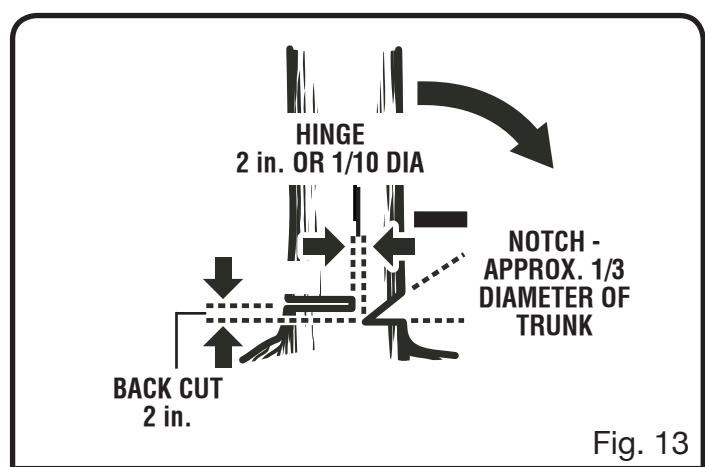

Fig. 13
- **Notched Undercut.** Cut a notch about $\frac{1}{3}$ the diameter of the tree, perpendicular to the direction of fall. Make the cuts of the notch so they intersect at a right angle to the line of fall. This notch should be cleaned out to leave a straight line. To keep the weight of the wood off the saw, always make the lower cut of the notch before the upper cut. *See Figure 13.*
- **Felling Backcut.** The backcut is always made level and horizontal, and at a minimum of 2 in. above the horizontal cut of the notch. *See Figures 13 - 14.*
- Never cut through to the notch. Always leave a band of wood between the notch and backcut (approximately 2 in. or $\frac{1}{10}$ the diameter of the tree). This is called "hinge" or "hingewood." It controls the fall of the tree and prevents slipping or twisting or shoot-back of the tree off the stump. *See Figures 13 - 14.*